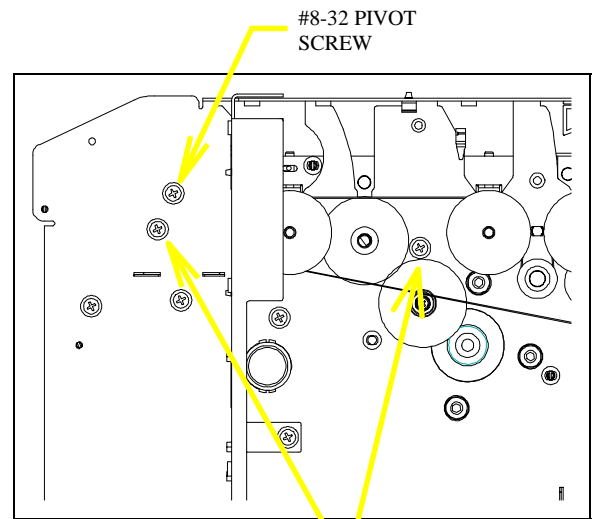

Figure 1
2. Remove Bin 1 Access cover, (8) #8-32 screws, Service cover, and any loaded tickets.
4. Unplug (19) connectors from main controller board, loosen (4) captive PCB panel screws, and remove main controller board assembly.
5. Remove (1) #8-32 pivot screw and remove pivot shaft, pivot spring, and top roller set. (Figures 1 and 2)
8. Remove (4) #8-32 burster screws, lift burster module up and out, and replace with new module (make sure that gears are properly meshed). (Figures 1, 2, & 3).